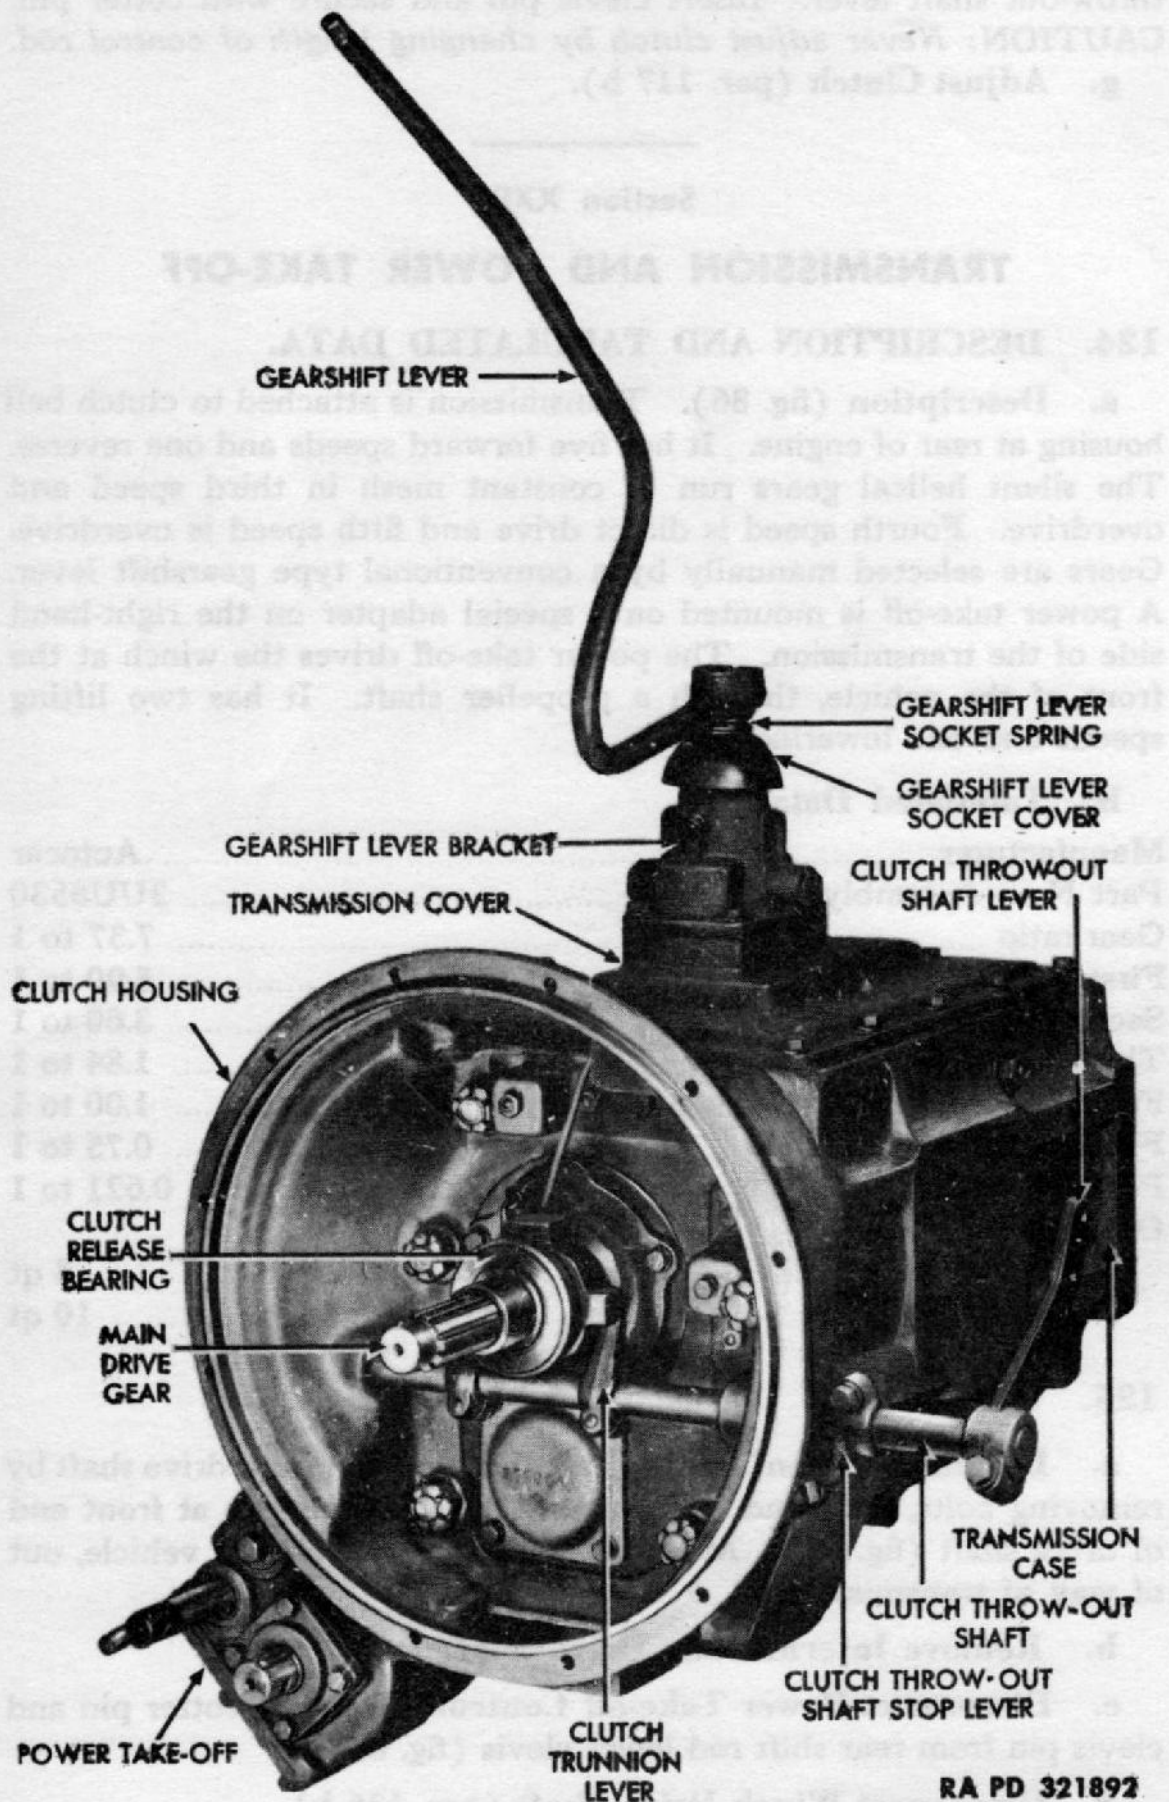

Figure 86 — Transmission Removed
c. **Check Clutch Trunnion Levers (fig. 86).** Check contact of clutch trunnion levers and lugs on clutch release trunnion block. Insert a feeler gage between each lug and lever at the same time. Uneven contact will not permit the block to slide freely, and poor clutch engagement will result. Levers can be bent to provide even engagement.
c. **Disconnect Clutch Control Rod, Clutch Throw-out Shaft Lever, and Clutch Throw-out Shaft Lever Spring Link** (fig. 86). Remove cotter pin and clevis pin which secure control rod to throw-out shaft lever. Remove control rod and spring link.
d. **Disconnect Clutch Throw-out Shaft Lever From Clutch Throw-out Shaft** (fig. 86). Remove the hex cap screw, spring, and Woodruff key which secure stop lever to throw-out shaft. Slide lever from shaft.
a. **Install Clutch Throw-out Shaft Stop Lever on Clutch Throw-out Shaft** (fig. 86). Position lever on shaft. Insert Woodruff key. Secure with cap screw and spring.
b. **Install Clutch Throw-out Shaft and Connect Clutch Throw-out Shaft Lever on Clutch Throw-out Shaft** (fig. 86). Install shaft. Insert Woodruff key, and fit lever on clutch end of shaft. Secure with hex cap screw and spring.
d. **Connect Clutch Throw-out Shaft Lever Spring Link and Clutch Control Rod to Clutch Throw-out Shaft Lever** (fig. 86). Insert clevis pin through holes at the end of spring link, control rod, and shaft lever. Secure with cotter pin.
a. **Description** (fig. 86). Transmission is attached to clutch bell housing at rear of engine. It has five forward speeds and one reverse. The silent helical gears run in constant mesh in third speed and overdrive. Fourth speed is direct drive and fifth speed is overdrive. Gears are selected manually by a conventional type gearshift lever. A power take-off is mounted on a special adapter on the right-hand side of the transmission. The power take-off drives the winch at the front of the vehicle, through a propeller shaft. It has two lifting speeds and one lowering speed.